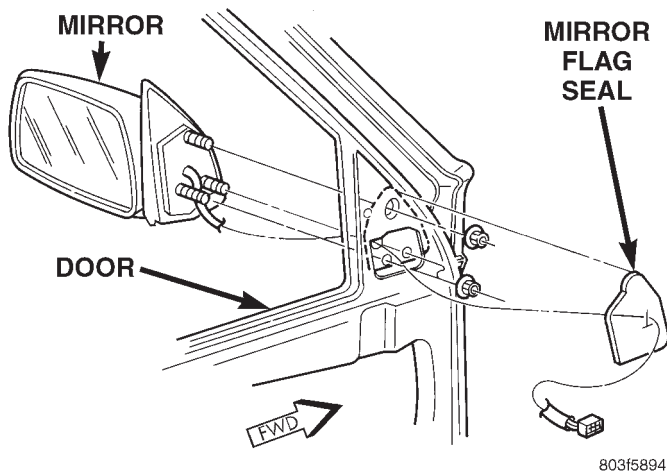

Fig. 9 Side View Mirror
- (3) If equipped, disengage two-way electrochromic mirror connector from wiring harness.
- (4) Remove clips attaching mirror harness to door inner panel.
- (5) Remove mirror flag seal.
- (6) Remove mirror retaining nuts (Fig. 9).
- (7) Remove mirror from door. Refer to Group 8, Electrical for additional information involving power mirrors.